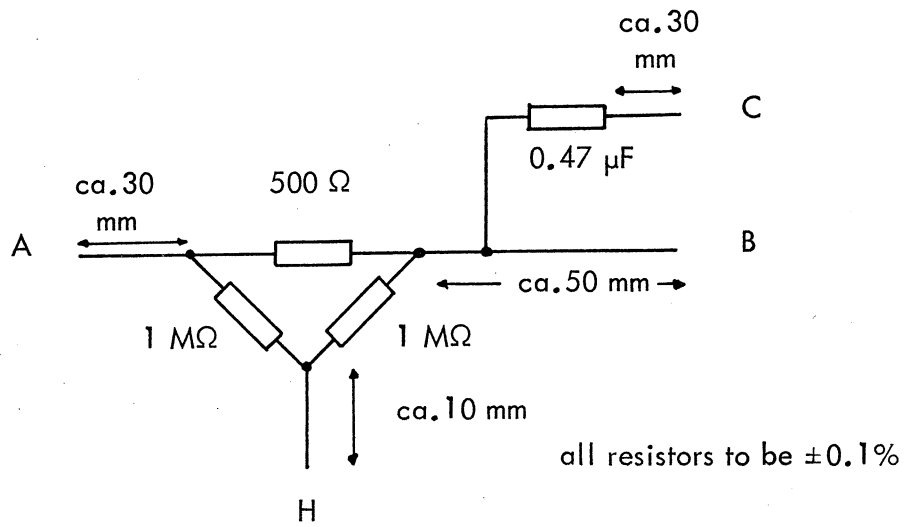

Fig. G1.
- 73) Connect the DC DVM between the points A and B, shown in Fig.G1.
- 96) Solder the assembly shown in Fig.G1, as follows: Point A to tag 5 of J700 and point B to tag 8 of J700. Point C on the assembly is not used in this check.